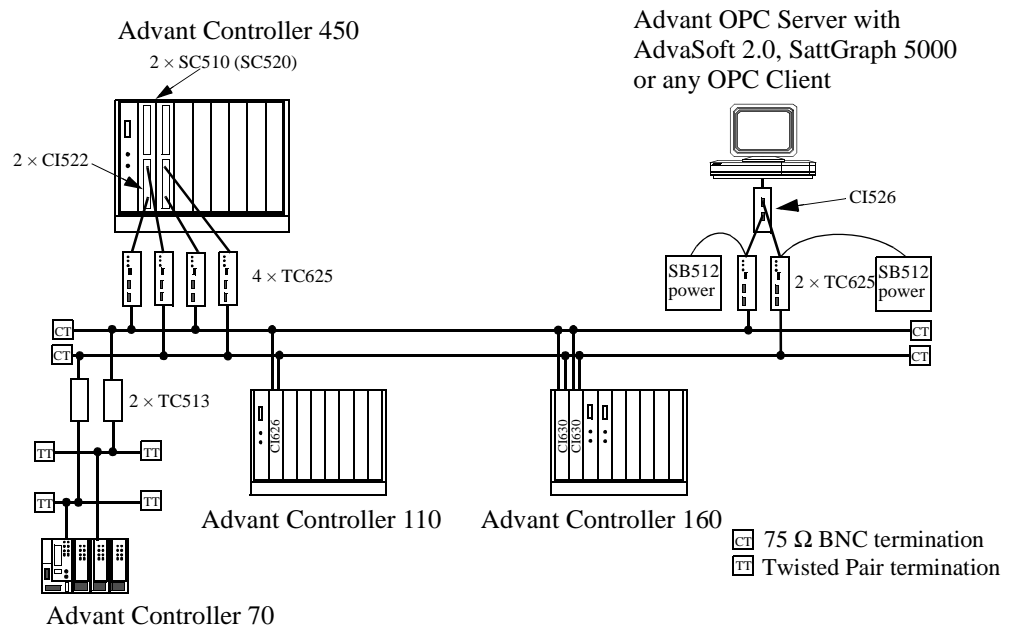
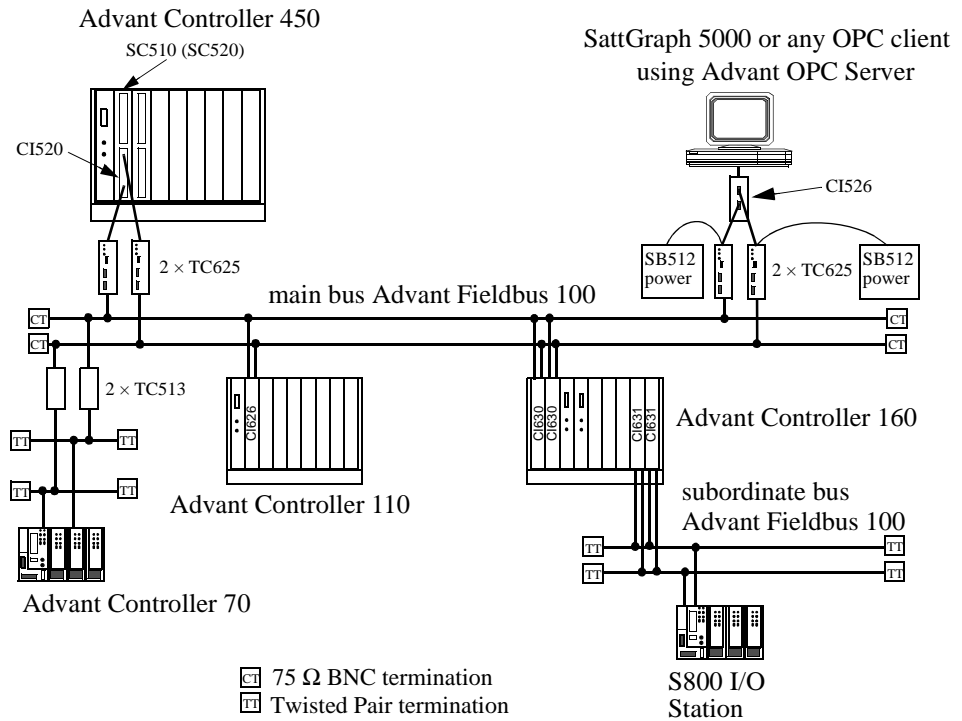

Figure 3-5. Redundant Advant Fieldbus 100 Configuration Using Coaxial Media
Figure 3-7. Dual Advant Fieldbus 100 Configuration
- Communication with Advant Controller 70, 110, 160, 450, SattGraph 5000, AdvSoft 2.0 Operator Station with OPC Server (Figure 3-5 to Figure 3-7).
- Coaxial, twisted pair and optical bus cables (Figure 3-5 to Figure 3-7).
- Redundant bus cables (Figure 3-5 to Figure 3-7).
- Redundant Communication Interfaces to Advant Fieldbus 100 (Figure 3-5).
- Second Advant Fieldbus 100 with redundant Communication Interface to communicate with S800 I/O stations and subordinate Advant Controller 70, 110 or 160 (Figure 3-7).